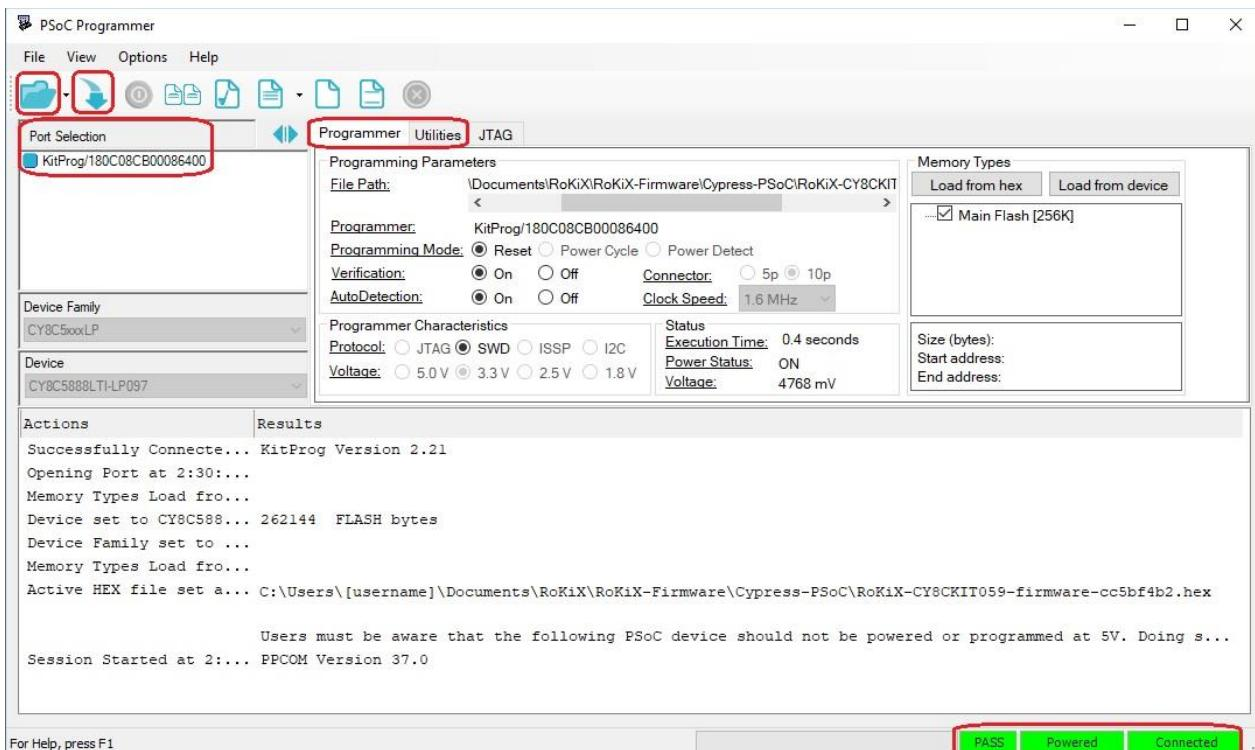

Figure 23: PSoC Programmer GUI
4. Open the *PSoC Programmer* application on your computer. Once opened, verify that **Powered** and **Connected** status messages are displayed in the status bar – the bottom right side of the window (Figure 23). If not, please verify the *CY8CKIT-059 Prototyping Kit* is properly plugged into the USB port.
5. Next, select the firmware *hex* file mentioned in the step 2 above by either pressing the open folder button or through the menu (File>File Load) or by pressing the F4 key (Figure 23).
6. Next, flash the firmware on the *CY8CKIT-059 Prototyping Kit* by pressing the down arrow button or through the menu (File>Program) or by pressing the F5 key. (Figure 23)